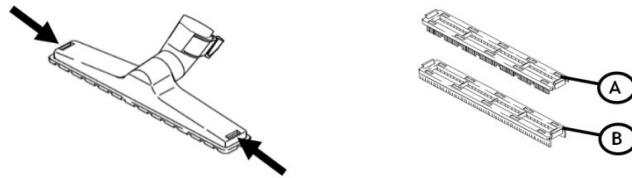

Figure 5
10. See Figure 5. Attach insert with bristles (A) to floor brush. To change inserts, press the two snaps on the ends of the floor brush.
17. Attach squeegee insert to floor brush. See Figure 5. To change inserts, press the two snaps on the ends of the floor brush.